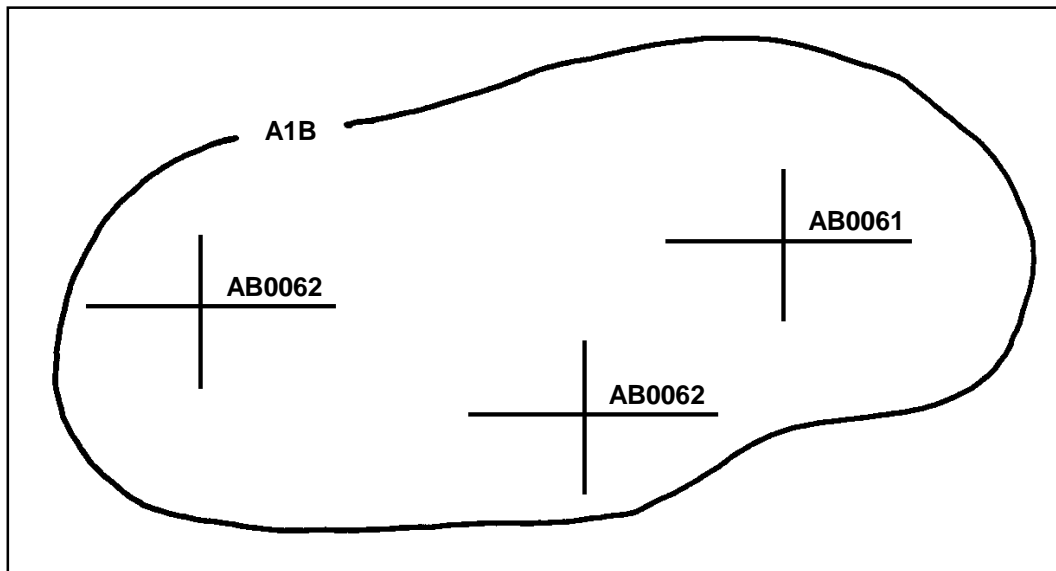

Figure 2-5. Group of targets.
c. A **group of targets** consists of two or more targets to be fired at the same time. Targets are graphically portrayed by circling and identifying them with a group designation (Figure 2-5). Mortars are normally assigned groups of targets. The group designation consists of the letters assigned to the maneuver brigade by the division TOC with a number inserted between them. For example, if the brigade is assigned the letters A and B, the first group of targets planned by the DS battalion FDC is designated A1B, the second group A2B, and so on. Similarly, if the division TOC has designated the letters A and Y, the first group is A1Y and the second is A2Y. The designation of a group of targets does not preclude firing at any individual target within the group.